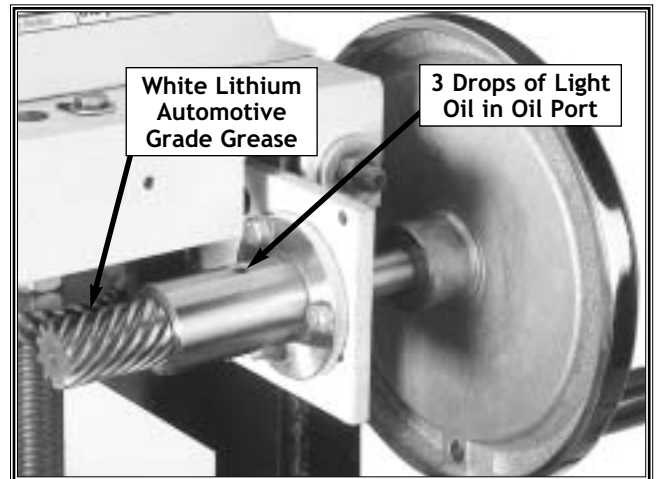

Figure 53. Handwheel bushing and gears.
7. Put three drops of the machine oil in the handwheel bushing oil port and a couple of dabs of lithium-base grease on the handwheel gears. See **Figure 53**.